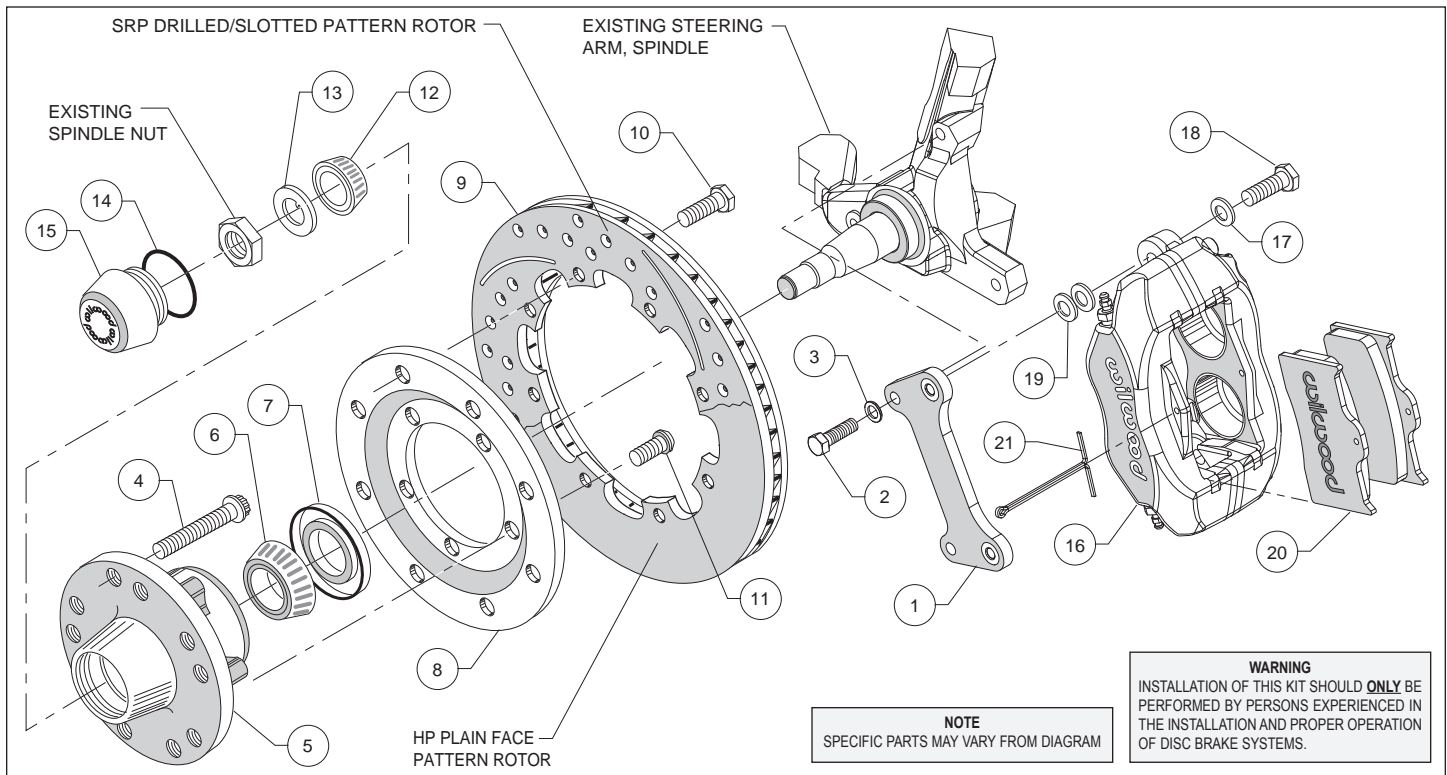
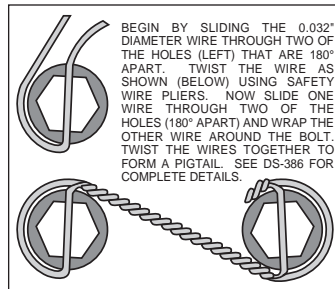
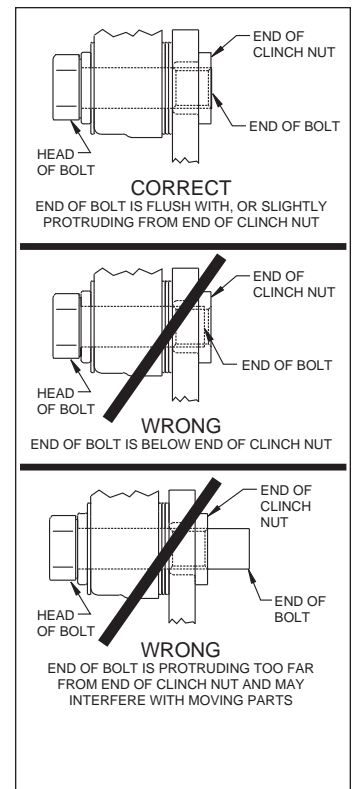

Figure 2. Typical Installation Configuration
Figure 4. Safety Wire Diagram
Figure 5. Clinch Nut Engagement Diagram
Assembly Instructions (numbers in parenthesis refer to the parts list on the preceding page, and Figure 2 above): **CAUTION:** All mounting bolts must fully engage insert nuts. Be sure to check that all bolts are either flush or protruding through flanged side of clinch nut after shimming, Figure 5.
- Align caliper mounting bracket (1) with the corresponding holes, to the face of the spindle and attach using bolts (2) and washers (3), as shown in Figure 2 and Photo 1. Temporarily tighten the mounting bolts. Ensure that the flanged heads of the clinch nuts in the bracket are facing outboard, Photo 1. **NOTE:** The bracket must fit squarely against the mounting points on the spindle. Inspect for interference from casting irregularities, machining ridges, burrs, etc. Remove bolts one at a time, apply red *Loctite*® 271 to threads, and torque to 40 ft-lb.
- Orient the rotor (9) and the rotor adapter (8) as shown in Figure 2 and Photo 4. Attach the rotor to the adapter using bolts (10). Using an alternating sequence, apply red *Loctite*® 271 to the threads, and torque to 180 in-lb. Safety wire bolts (10) using standard 0.032 inch diameter stainless steel safety wire as shown in Figure 4. Refer to Wilwood's data sheet DS-386 (available at www.wilwood.com/pdf/ds386.pdf) for complete safety wire installation instructions.
- Mount the adapter/rotor assembly (8/9) to the hub (5) using bolts (11), as shown in Figure 2 and Photo 5. Using an alternating sequence, apply red *Loctite*® 271 to the threads, and torque to 55 ft-lb.
- NOTE:** Please reference the caution statement at the beginning of the assembly instructions. Mount the caliper (16) onto the caliper mounting bracket (1) using bolts (18) and washers (17), as shown in Figure 2. Initially place two .035" thick shims (19) on each bolt between the caliper and the bracket, Photo 8. Temporarily tighten the mounting bolts and view the rotor (9) through the top opening of the caliper. The rotor should be centered in the caliper, Photo 9. If not, adjust by adding or subtracting shims between the bracket and the caliper. Always use the same amount of shims on each of the two mounting bolts. **NOTE:** The end of each bolt must be flush with or slightly protruding from the head of the clinch nut, as shown in Figure 5. If necessary place spare shims between washer (17) and caliper mounting ear to achieve the proper clinch nut engagement. Once the caliper alignment and clinch nut engagement are correct, remove the bolts one at a time, apply red *Loctite*® 271 to bolt threads, and torque to 40 ft-lb. Safety wire the bolts as shown in Figure 4.